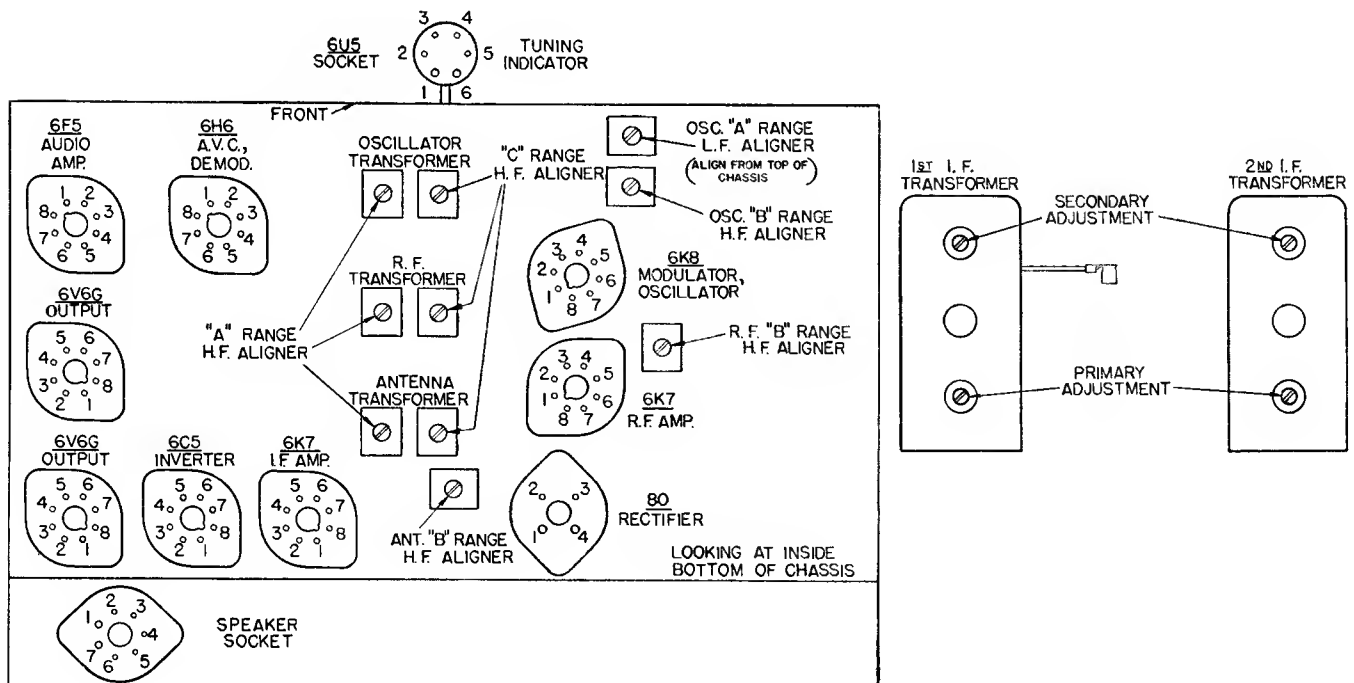

Fig. 1. Terminal Layout for Voltage Measurement Chart and Location of the Various Aligning Capacitors.
The values of voltages listed in the following table are obtained by measuring between the various tube socket contacts and the chassis base, with the tubes in their respective sockets. The receiver is, therefore, in full operation when the measurements are made. Figure 1, shows the terminal layout of the sockets with the proper terminal numbers.
IMPORTANT: In making any R. F. or I. F. alignment adjustments, always adjust the test oscillator's output voltage to the minimum value where a good alignment may still be obtained. Never attempt to make any alignment adjustments using a strong signal. Before proceeding with the alignment of any R. F. or I. F. circuits in these receivers be sure that the "Off-On-Tone" control knob is set for maximum treble response, and that the Electric Tuning Set-Up Switch, located on the rear of the chassis base, is rotated to the "Set-Up" position. When the aligning adjustments have been completed the Electric Tuning Set-Up Switch should be rotated back to the "Operate" position. Figure 1, shows the location of all the aligning capacitors in these receivers.
3. Now, noting from Figure 1, the aligning capacitors for the first and second I. F. transformers, align the I. F. circuits in the following manner: